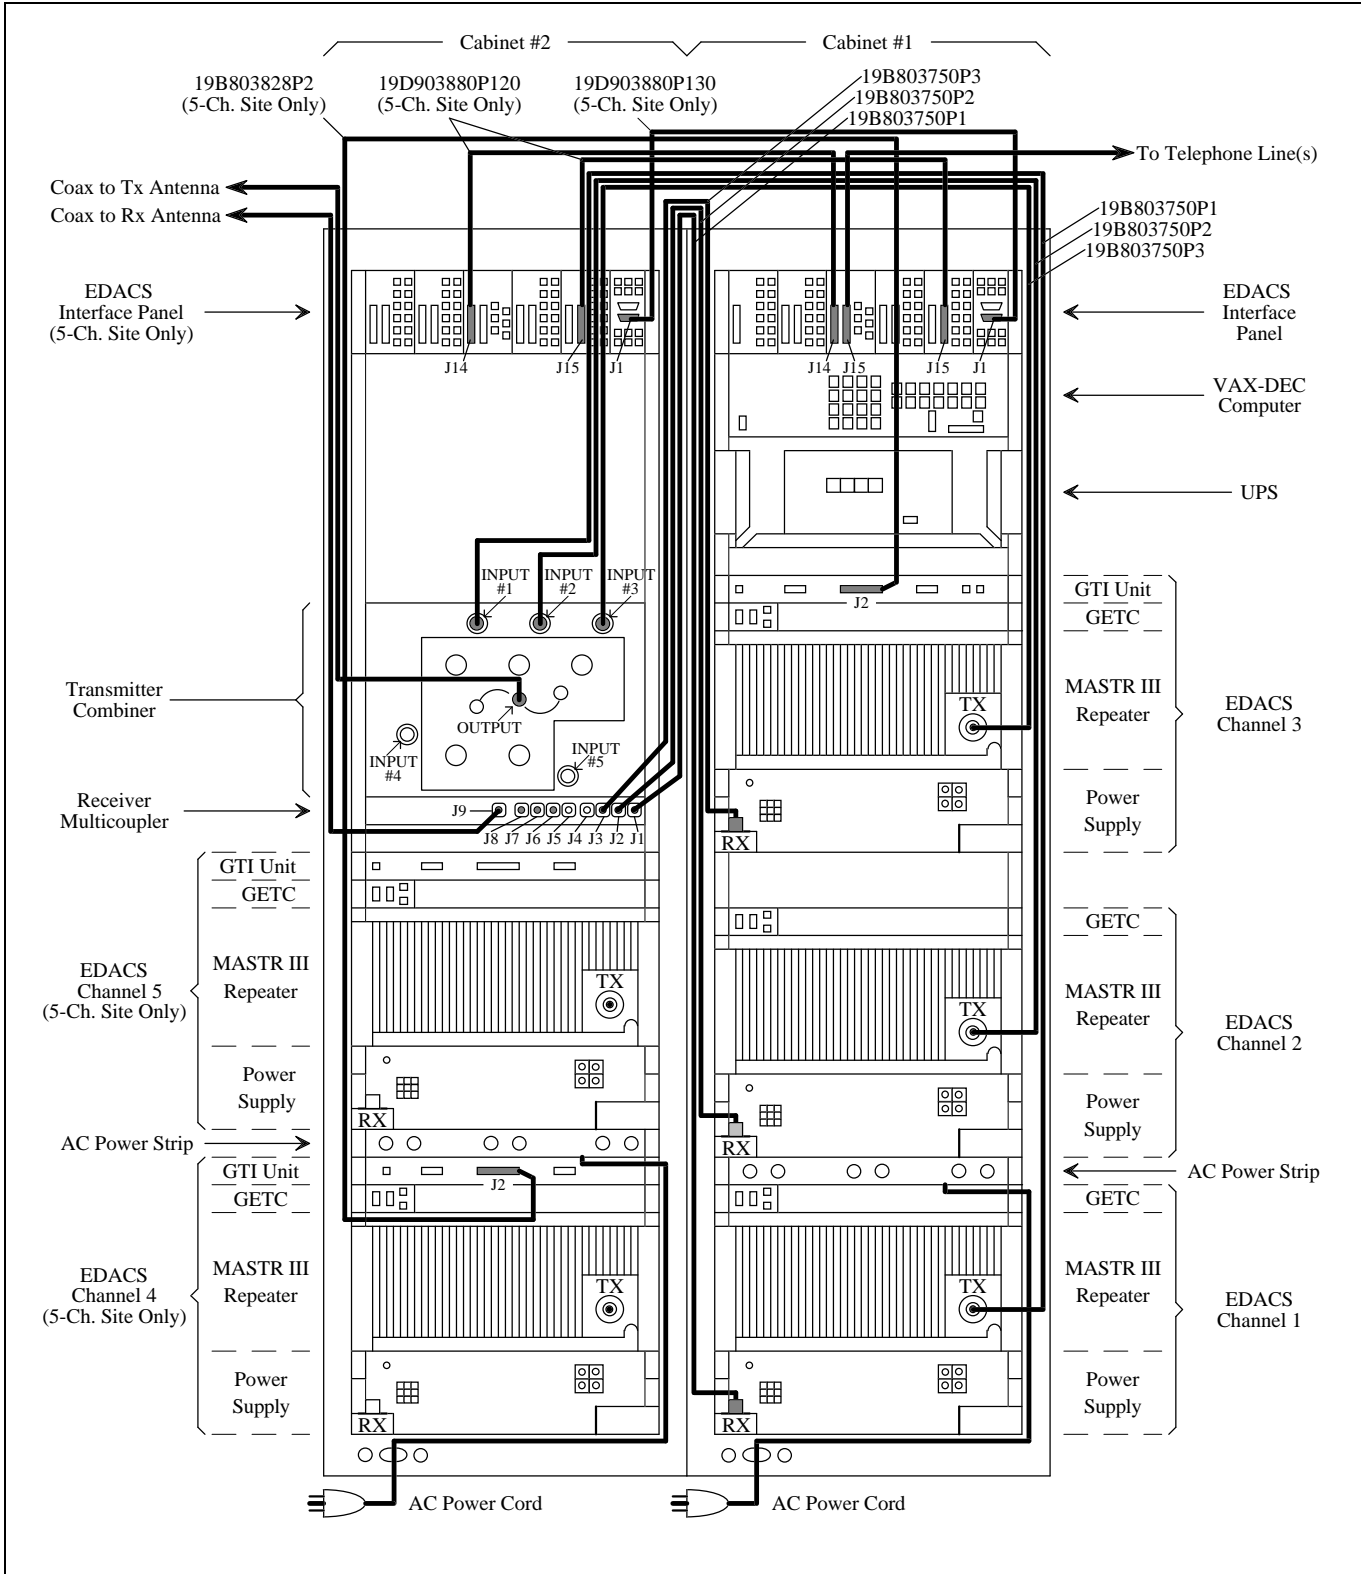

Figure 1 - Installation Connections - Rear View of Cabinets
- Orient the cabinets as shown in Figure 1 (note that this is a rear view), and fasten to the floor.